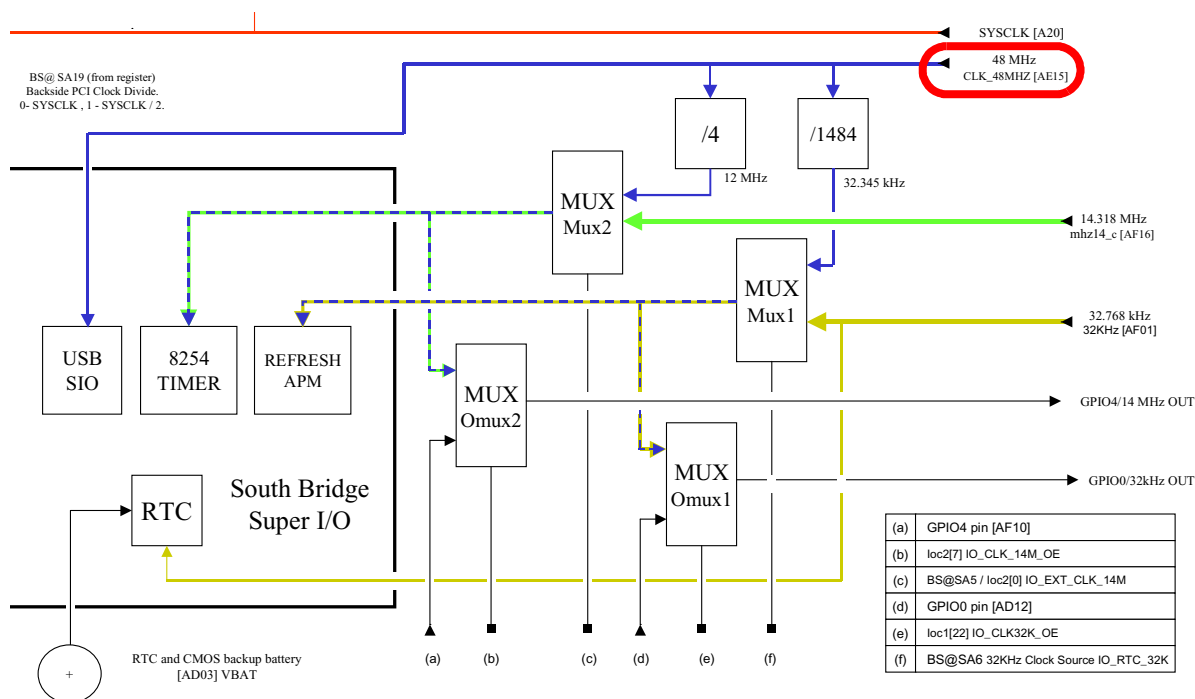

Figure 5-13 USB_48MHz_C [AE15] Clocking Control Circuitry
d. Get the 8254 Timer the USB Clock/4 or 12 MHz. See [Figure 5-13 "USB_48MHz_C \[AE15\] Clocking Control Circuitry" on page 447.](#)